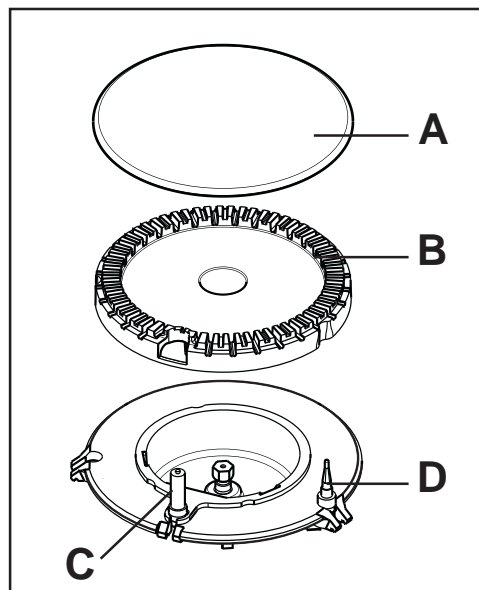

Fig. 1
2. After lighting the flame, keep the knob pushed down for about 5 seconds. This will allow the "thermocouple" (Fig.1 lett.D) to be heated and the safety device to be switched off, otherwise the gas supply would be interrupted.
**i** If you cannot light the flame even after several attempts, check the "cap" (Fig. 1 lett. A) and the "crown" (Fig. 1 lett. B) are in the correct position.
In models provided with electric ignition, this feature is obtained through a ceramic "candle" and a metal electrode (Fig. 1 lett. C). Keep these components well clean, to avoid difficult lighting, and check that the burner crown holes (lett. B) are not obstructed.